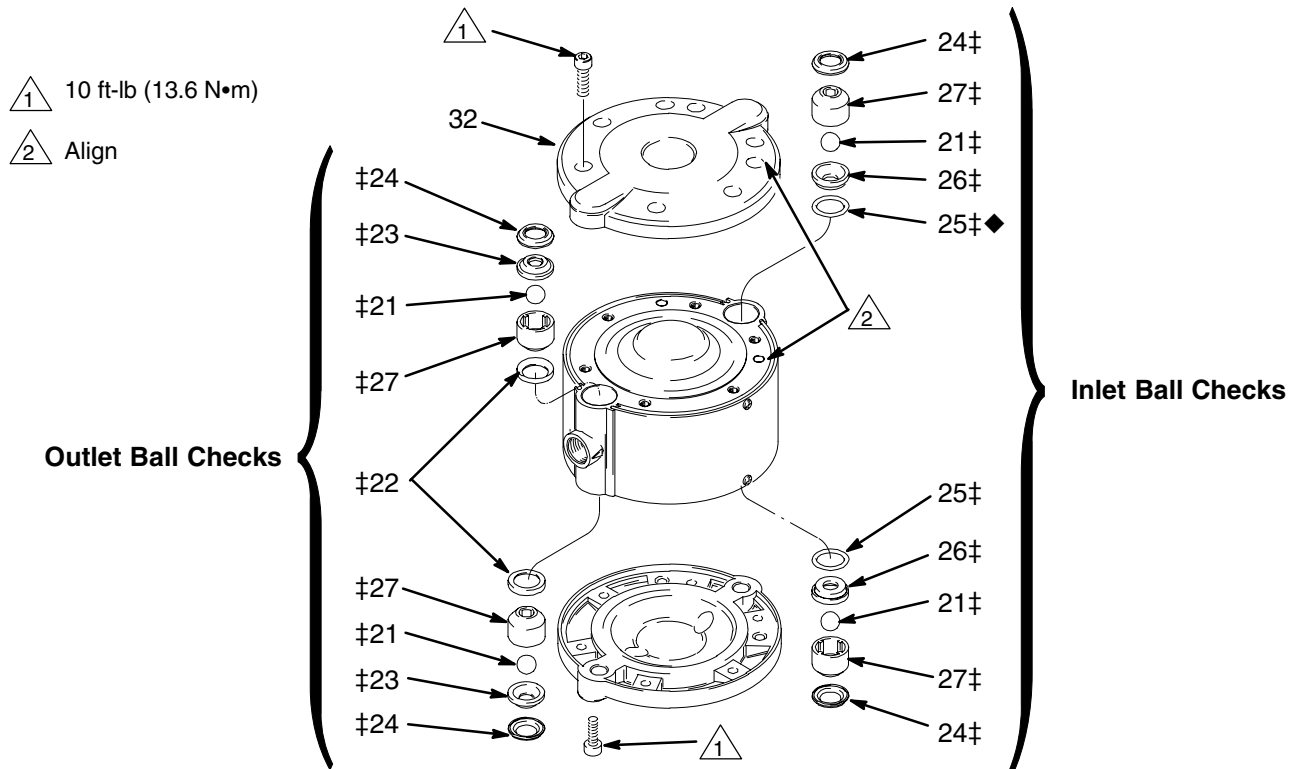

Fig. 4
2. Remove the inlet and outlet ball checks. Note that the orientation of the inlet check parts is different from the outlet check parts. See Fig. 4.
**NOTE:** If the inlet seats (26) are difficult to remove, drive them out from the opposite side using a brass rod and hammer.
1. Reinstall the inlet and outlet ball checks on one side of the pump. The inlet and outlet checks are assembled differently. Install the parts exactly as shown in Fig. 4.
2. Install one cover (32) loosely, to prevent the ball checks from falling out. See page 14.